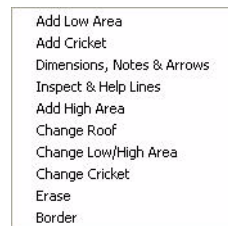

Figure 1-15 Toolbar pop-up menu
**You can locate the Add Low Area toolbar in one of the Toolwindows surrounding the Drawing Areas, You can also right-click in the Toolwindow to choose the toolbar from a popup menu, as shown in Figure 1-15.**